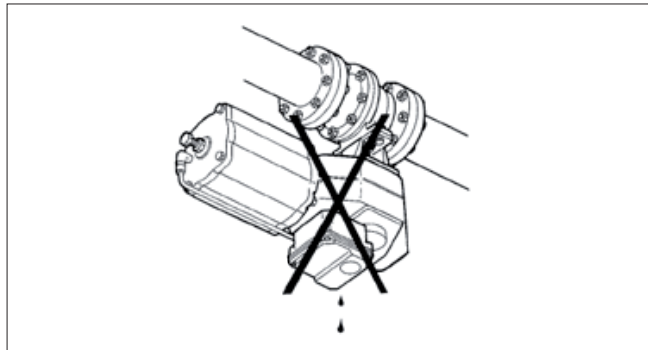

Figure 5. Avoid this mounting position
6. It is not recommended to install the valve with the stem on the underneath side because dirt in the pipeline may then enter the body cavity and potentially damage the stem packing (**see Figure 5**).